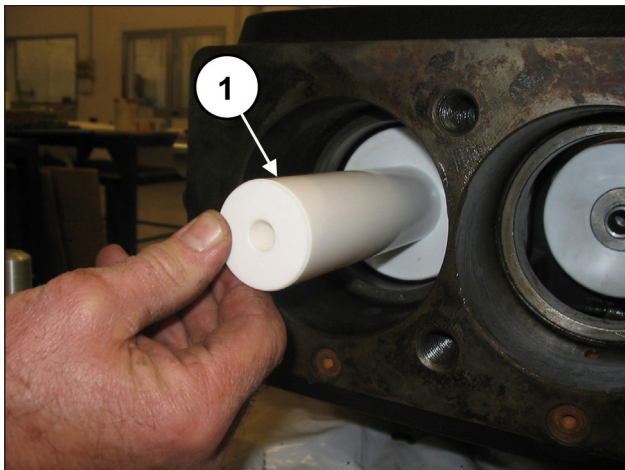
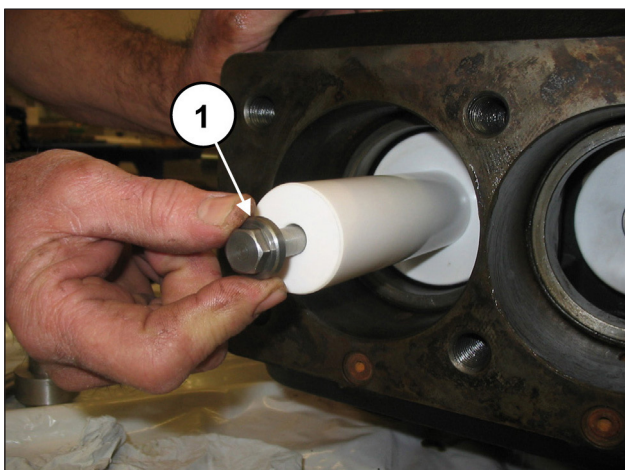

Fig. 165
Fig. 166
Install the pistons on their respective guides (pos. ①, Fig. 165) and fasten them as per pos. ①, Fig. 166.